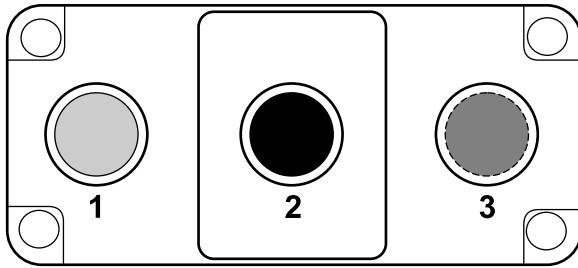
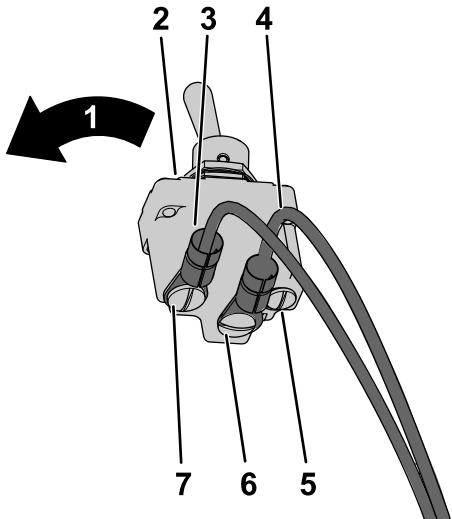

Figure 17
Figure 18
3. Identify the switch terminal locations, wire harness labels, and wire harness colors (Figure 17).
Note: The switch is spring-loaded to the rear of the switch (Figure 18). The switch is normally open between terminals 1 and 2 (Figure 17).
- Secure the red wire labeled BYPASS ENGAGE SWITCH 2 to the override switch center terminal number 2 (Figure 17 and Figure 18).
- Secure the gray wire labeled BYPASS ENGAGE SWITCH 1 to the override switch rear terminal number 1 (Figure 17 and Figure 18).